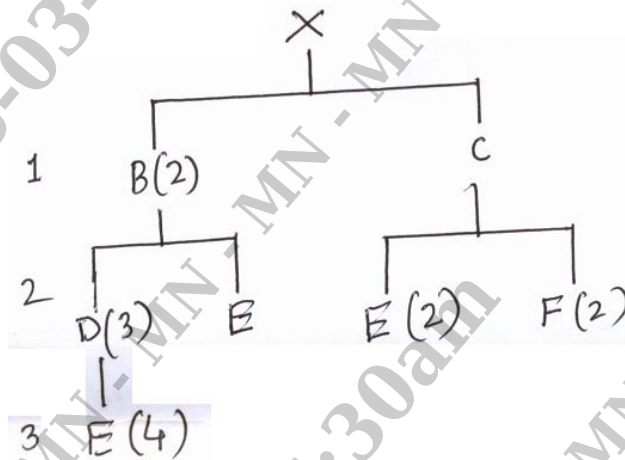

Fig. Q9 (b)
b. The Fig.Q9 (b) shows product structure tree for end Item X i.e.Chairs